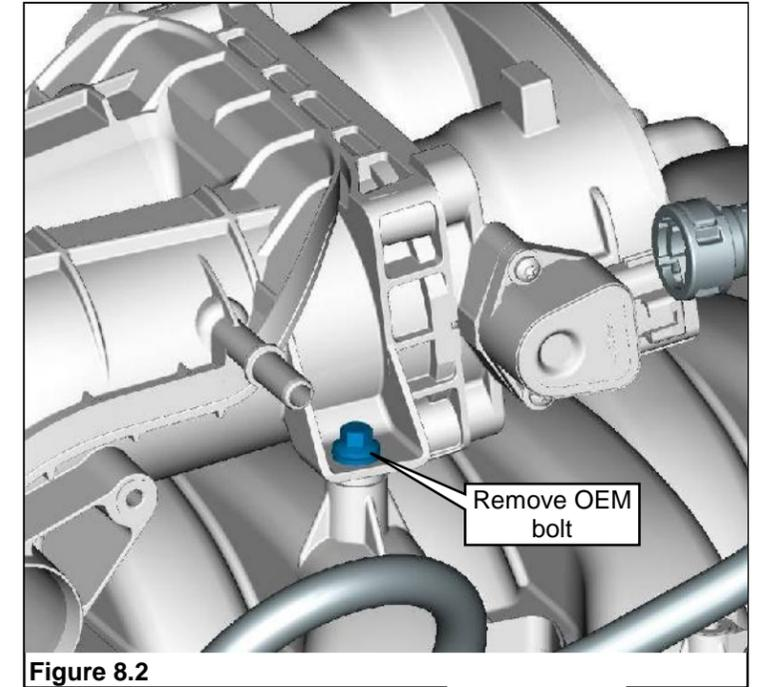

Figure 8.2
1. Remove the OEM throttle body adapter M6 x 20 mounting bolt. Reuse this bolt to help secure the FRPCM bracket. **Figure 8.2.**